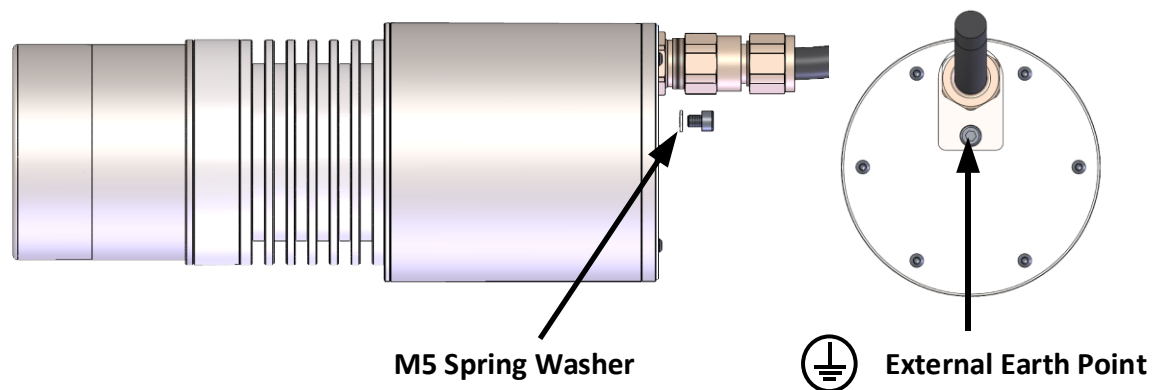

Figure 4: External Earth Point
- Ensure the sensor, mounting components and housing are suitably earthed. The sensor must be earthed using a cable conductor  $\geq 4\text{mm}^2$  (11 AWG). The supplied M5 spring washer must be used when connecting the earth cable (Figure 4).